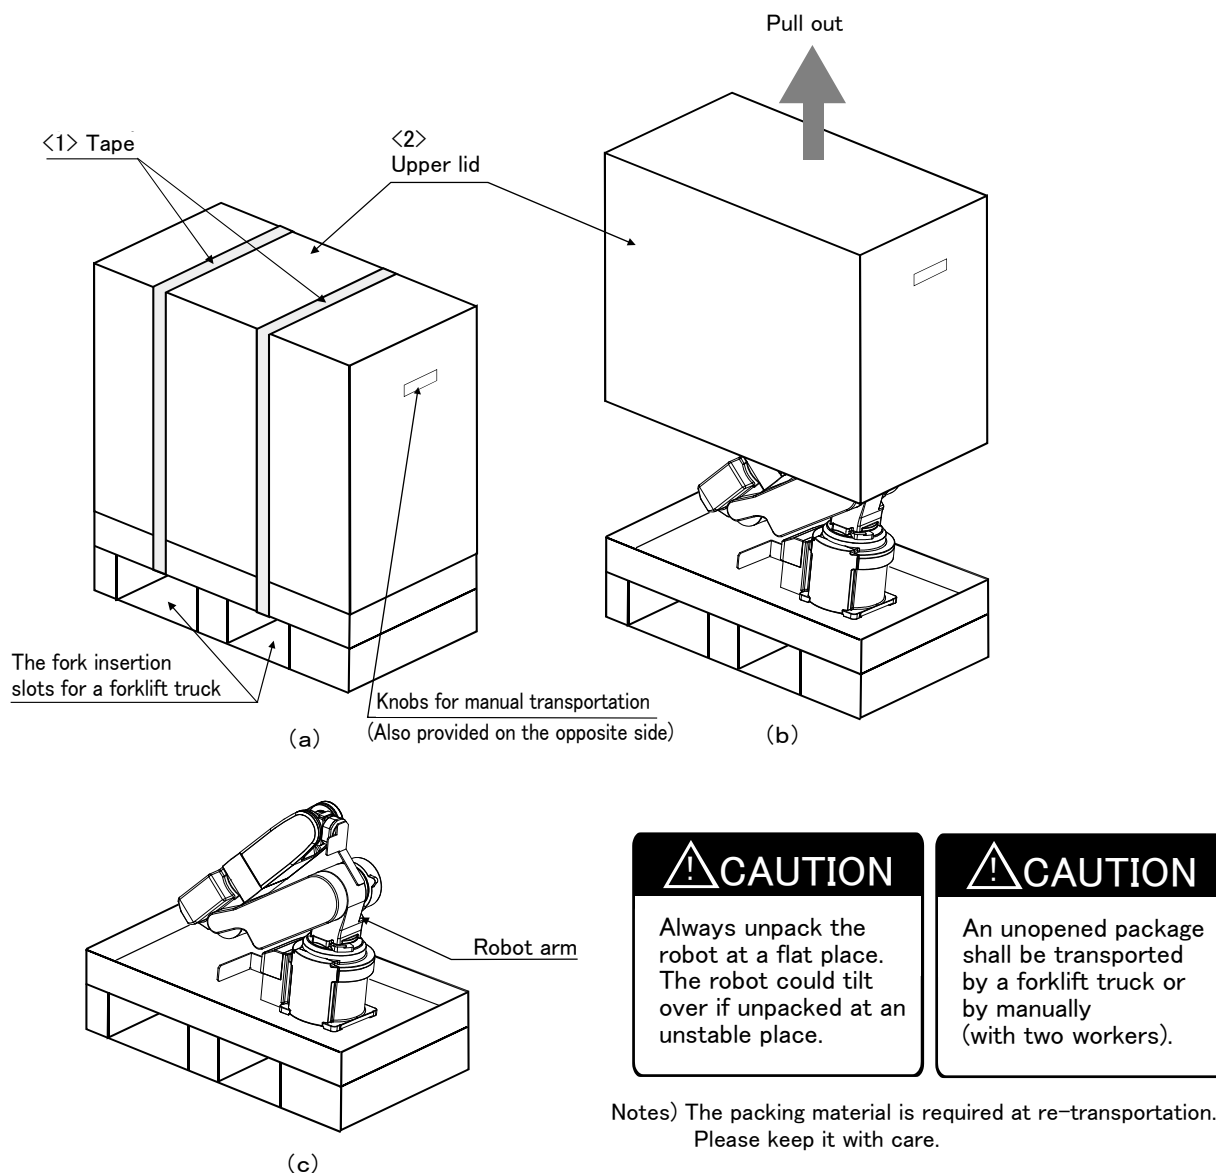

Fig.2-2 : Unpacking the robot arm (RV-2FRL/2FRLB)
The robot is shipped from the factory in cardboard and plywood packing. Always refer to Fig. 2-2 and unpack the robot. Handle the robot arm according to "2.2.2 Transportation procedures \(Transportation by people\)".
- 1) Using a knife, etc., slit the tape <1> fixing the upper lid <2> of the cardboard box. (Fig. 2-2 \(a\))
- 2) Pull the upper lid <2> of the cardboard box off with both hands. (Fig. 2-2 \(b\))
- 3) Remove the hexagon socket bolts <3> (four positions) connecting the sleeper and the base unit. (Fig. 2-2 \(c\))